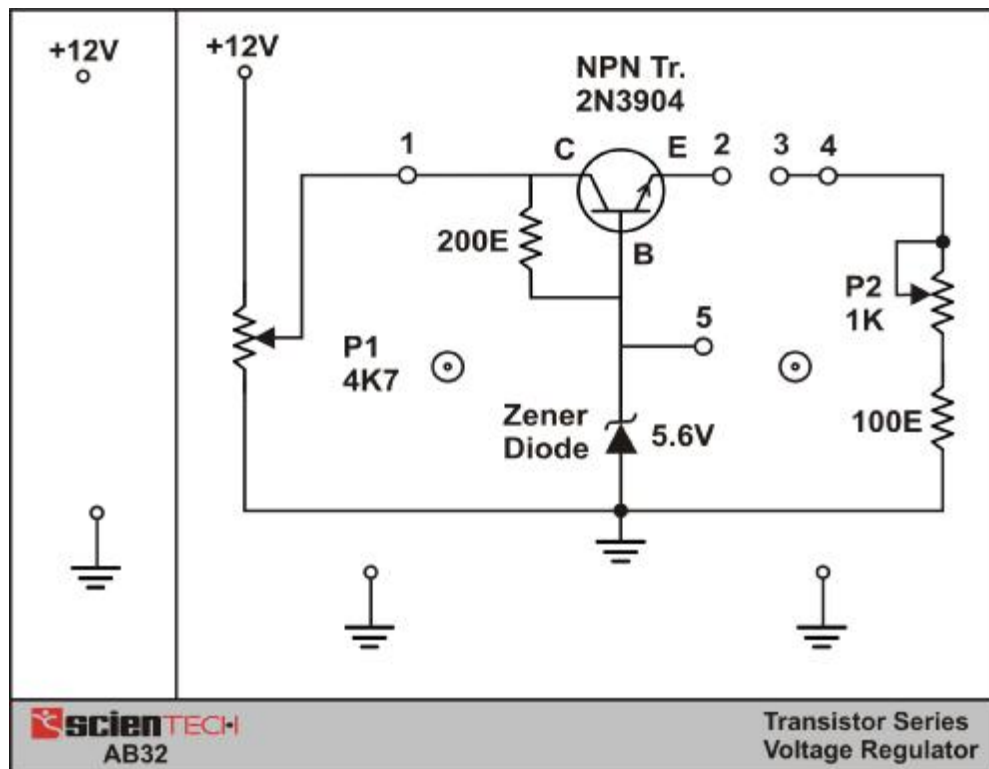

Figure 4
Circuit used to study Transistor Series Voltage Regulator is shown in figure 4.
- The result of Experiment 1 reveal that for the network of figure 4 with a fixed input voltage V_{in} the output voltage will remain close to 4.9 V for a range of load resistance that extends from _____ to _____ .